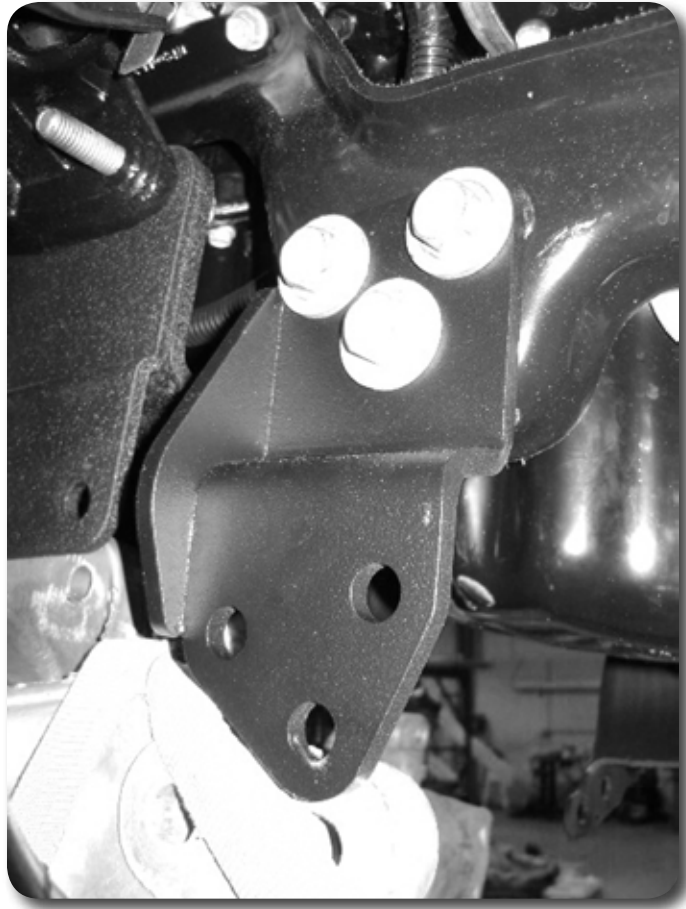

Figure 21
35. Install the driver's side rear differential drop bracket to the frame with three 12mm x 30mm bolts and 1/2" SAE washers into the existing welded nuts on the frame. The bracket will offset toward the outside of the vehicle with the gusset to the front. **Figure 21** Leave hardware loose.